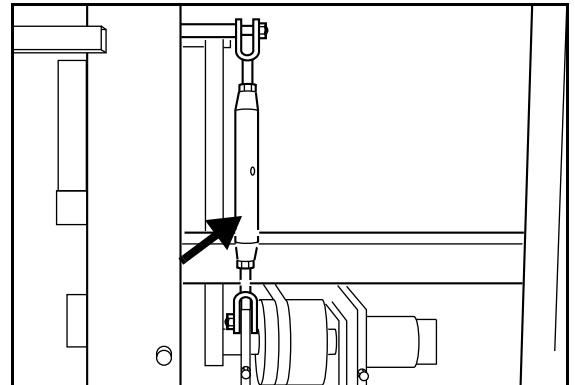

Fig. 13
- The timing belt for the nip roll drive is adjusted with a stretching screw, see Fig. 13.